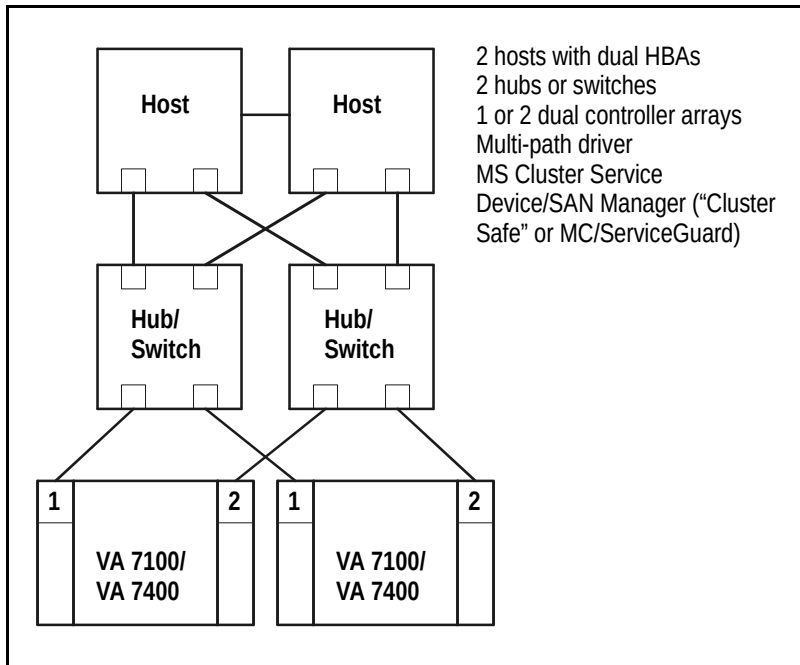

Figure 16 HP-UX or Windows Cluster with Full Path Redundancy
- HP-UX or Windows cluster with full path redundancy (see Figure 16)